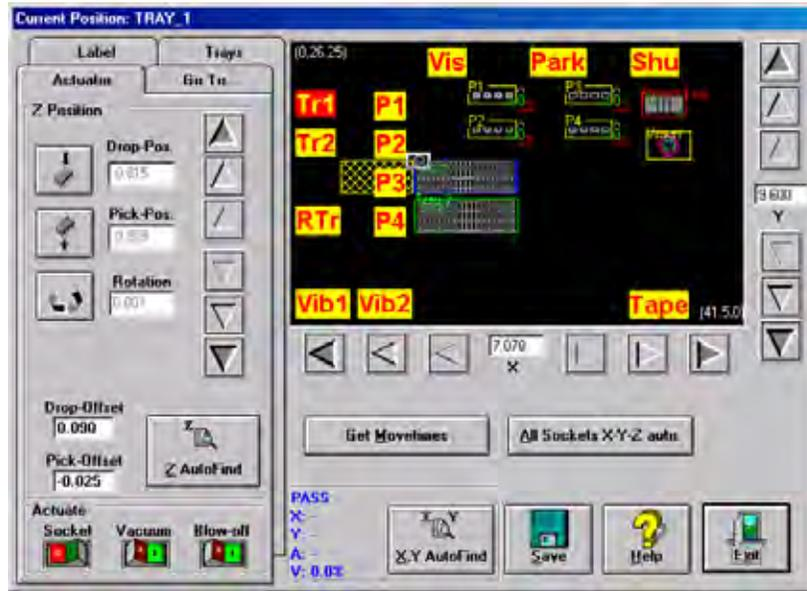

Figure 3-53—Gantry window display with automatic tray feeder installed
***NOTE:** If the automatic tray feeder option is installed, trays are displayed in the Gantry window as shown in Figure 3-53.*